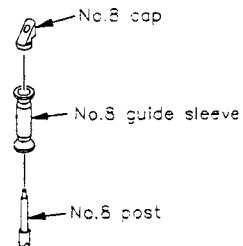

Fig. 4-3-2 No. 8 guide replacement
1. Remove No. 8 cap and No. 8 guide sleeve in this sequence as shown in Fig. 4-3-2. When reassembling, perform the previous steps in reverse order.